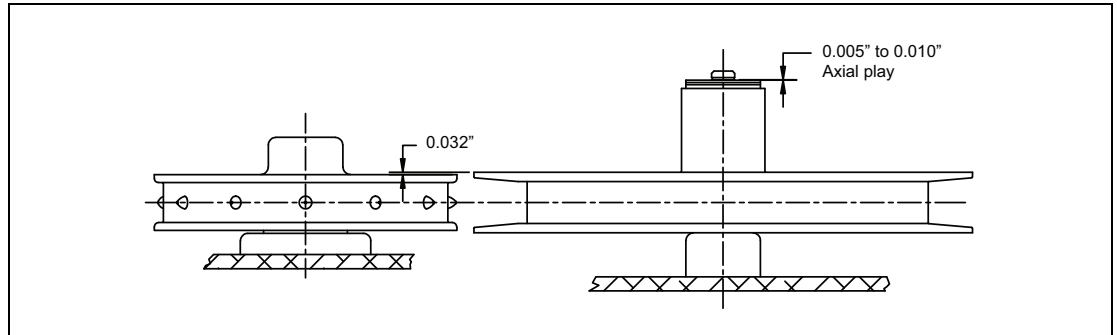

Figure 4-2: Sheave Alignment
2. Adjust the number of shims to bring the sheaves into the specified alignment as shown on Figure 4-2.